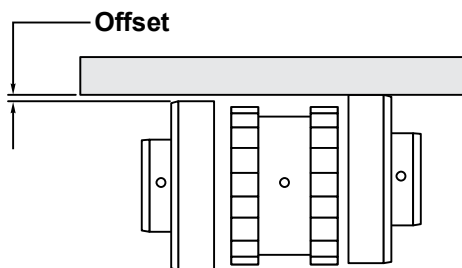

Figure 15- Measuring Offset
12. Check parallel alignment by placing a straightedge across the two coupling flanges and measuring the maximum offset at various points around the edge of the coupling flanges **WITHOUT ROTATING THE COUPLING FLANGES**. If the maximum offset exceeds .015 inches, realign the shafts. Reference Figure 15.